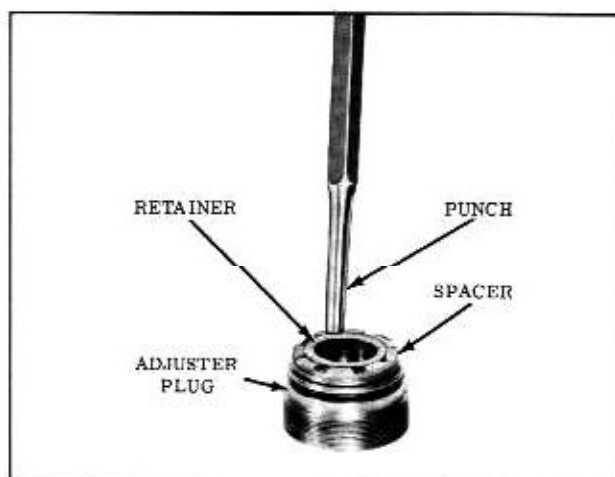

Fig. 4-83 Installing Retainer
5. Install a new bearing retainer on the adjuster plug by carefully tapping on the flat surface of the retainer. (Fig. 4-83)